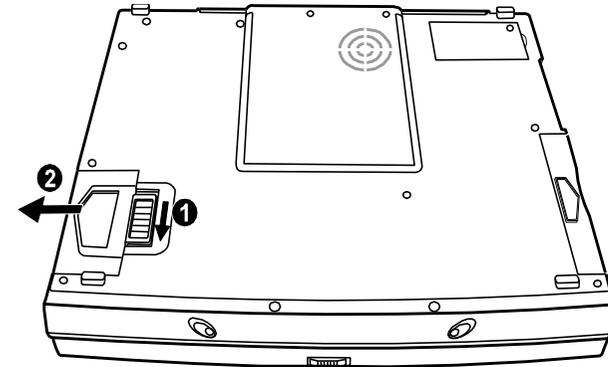

Figure 5-7. Removing the Battery Pack
1. Fit the battery pack into the compartment. Make sure the locking latches are in the locked position. (Refer to Figure 5-7 )